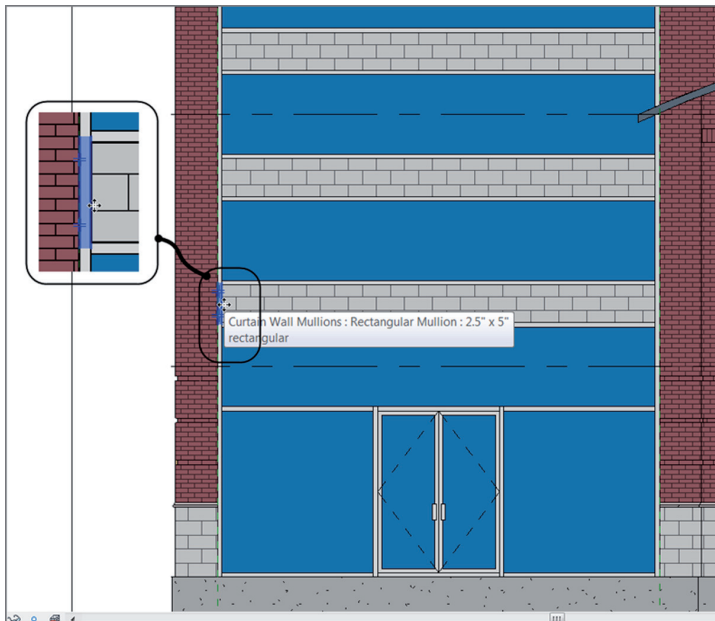

FIGURE BC1.37: Selecting the mullion
1. Zoom into an area where the CMU meets the brick, as shown in Figure BC1.37.
3. You can either modify the join (as shown in Figure BC1.37) or press the Delete key and remove the mullion. In this case, delete the mullion. Repeat the procedure for other similar areas.